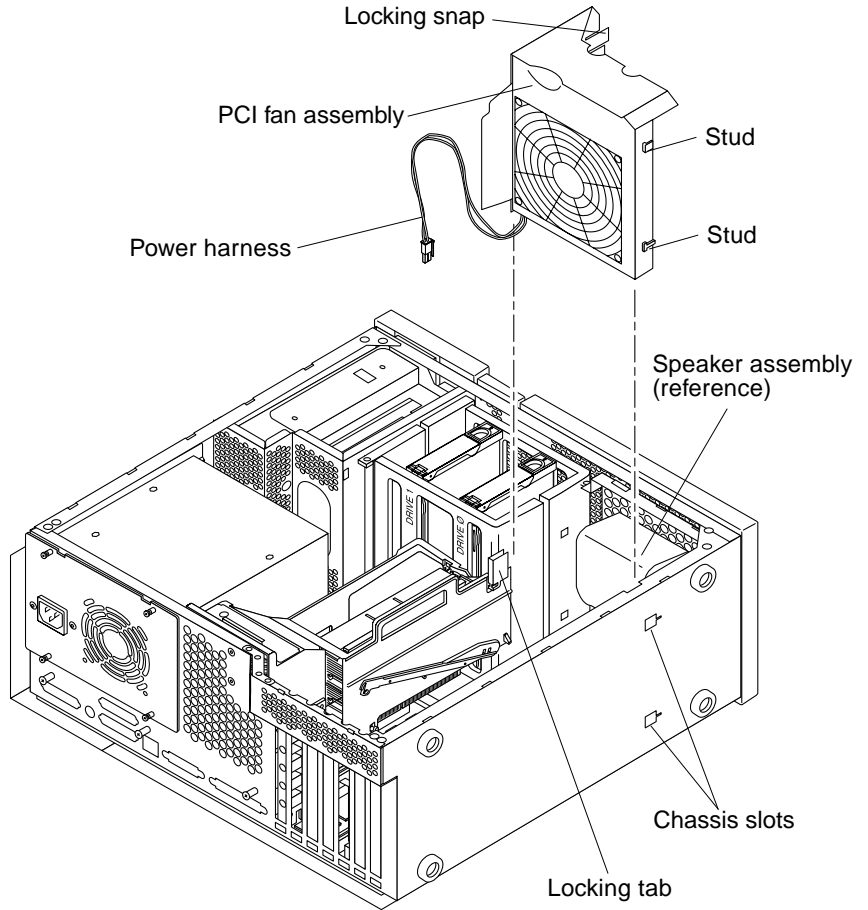

FIGURE 8-15 Removing and Replacing the PCI Fan Assembly
- 7. Replace the PCI fan assembly (FIGURE 8-15):**